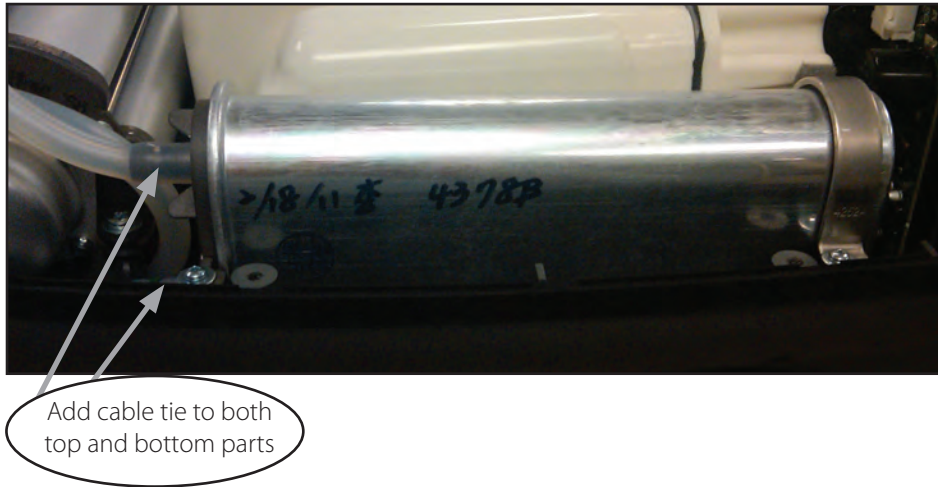

Figure 48: Connect output tubing
5) Connect the Output tubing to the Top port on the Product Tank and secure with cable ties. See Figure 48.